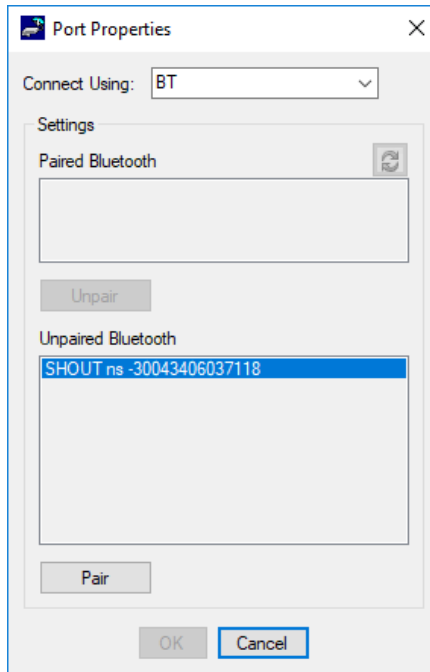

Figure 6. Bluetooth Port Properties Window Unpaired.
This section describes how to connect and pair the SHOUT ns to SatTerm via Bluetooth. Connecting to Bluetooth also is done through the Port Properties. The Bluetooth port properties window (see Figure 6) has several buttons, and the functionality of each are as follows:
6. On the Bluetooth Ports properties, a list of any nearby SHOUT ns devices with Bluetooth activated is shown (see Figure 6). Find and select the desired SHOUT ns device, and click Pair to pair the device to SatTerm. When paired, SatTerm will output "PAIRING COMPLETE" to state it has successfully paired the device. If the SHOUT ns device is not shown, check that Bluetooth is on and click the refresh button to search for the device again.